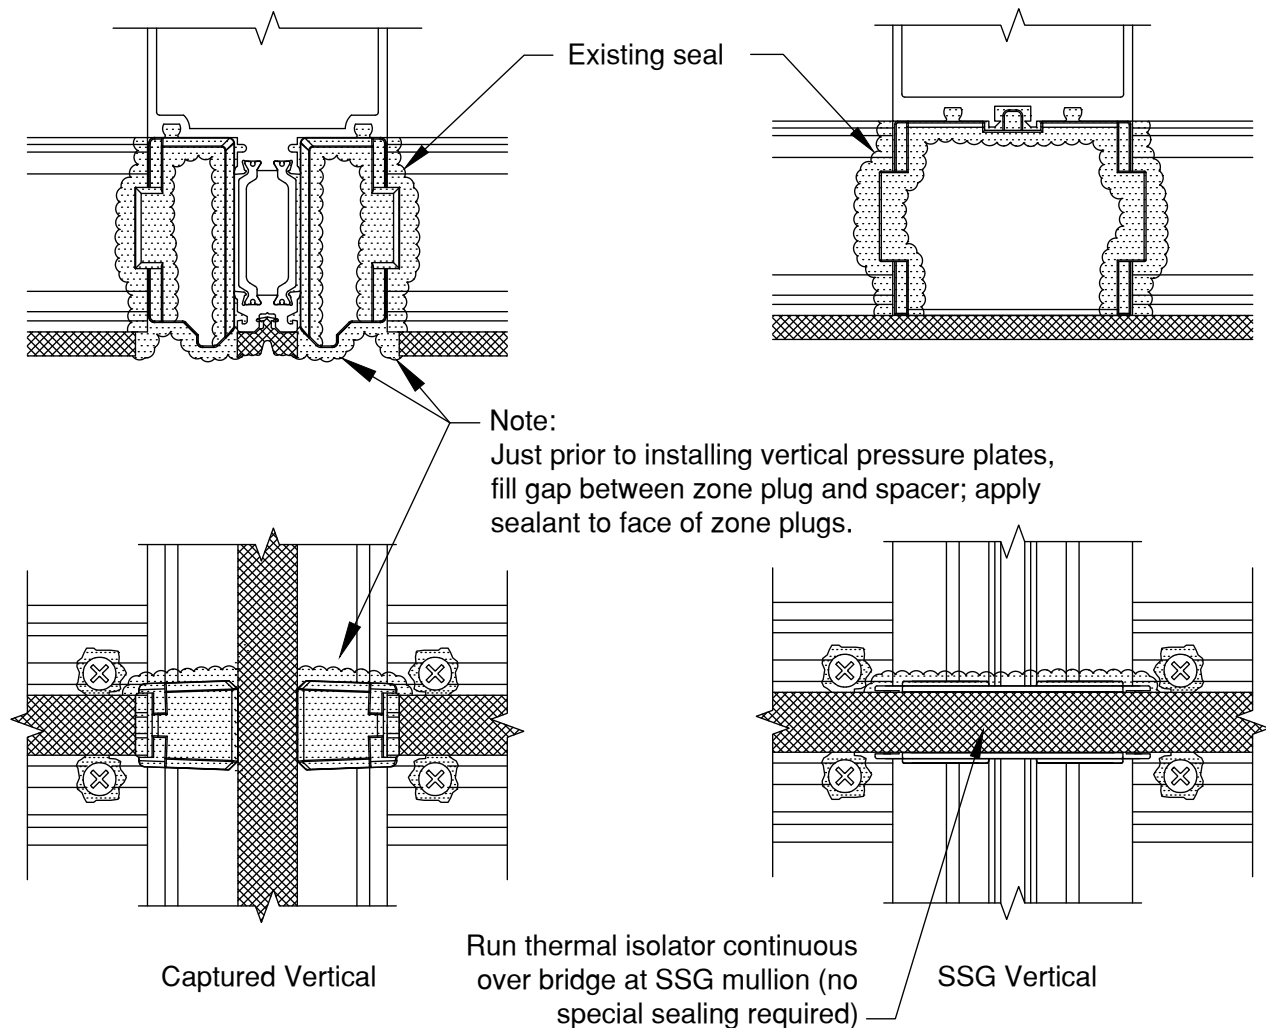

FIGURE 15
3.9 Prior to installing vertical pressure plates, apply sealant to the face of each horizontal zone plug. **SEE FIGURE 15.** Vertical pressure plates must be installed before the horizontal pressure plates are applied.